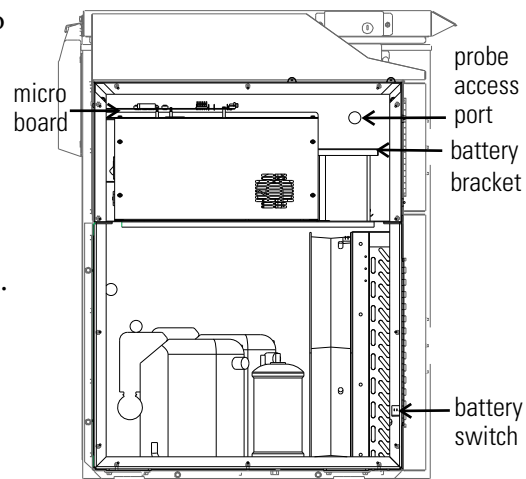

Figure 5-1. Battery and Switch location
3. Turn off the battery switch (O). See Figures 5-1 and 5-2.
2. Locate the battery power switch (Figure 5-1). Turn the battery power switch to the Off position (O).
4. Remove the three nuts securing the battery bracket. See Figure 5-1.